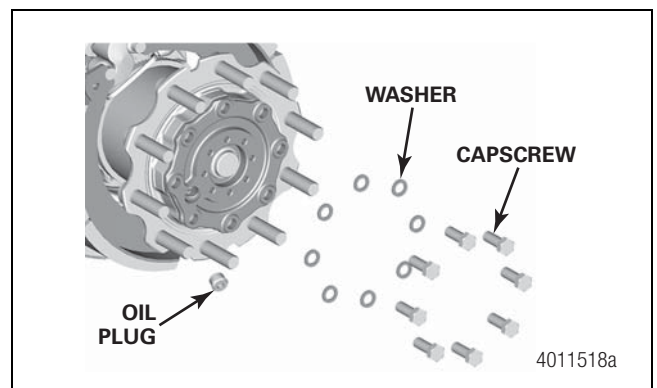

Figure 4.7
5. Remove the capscrews and washers that connect the drive flange to the wheel hub. Figure 4.7.